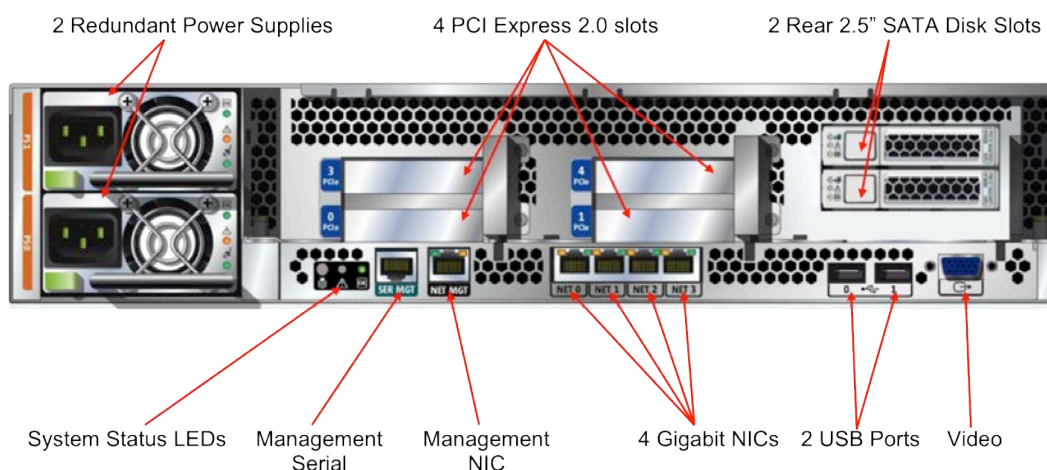

Figure 11. Example Disk controller wiring when using the optional Rear Dual SATA disk cage for the Sun Fire X4270 M2 Server
The Optional Rear dual disk cage replaces the rear panel of the server and replaces the two right-most PCIe slots of the conventional rear panel. This is illustrated in Figure 11.
The passive riser splits 16 PCIe 2.0 lanes from the IOH into two sets of eight lanes, one set for each riser slot. The active riser (see Figure 11) uses an IDT PES24T6G2 PCIe 2.0 switch to expand eight PCIe lanes from the IOH into two x8 slots. The PES24T6G2 switch features six ports and twenty-four 5 Gb/sec PCIe 2.0 lanes supporting 5 Gb/sec, 2.5 Gb/sec, and mixed 5 Gb/sec and 2.5 Gb/sec modes. As implemented in these servers, the switch provides high-performance I/O connectivity and switching functions between the riser's x8 PCIe 2.0 upstream port and the two x8 downstream ports. It supports eight traffic classes (TCs) and one virtual channel (VC) with sophisticated resource management algorithms (including round-robin, weighted round-robin, and strict priority schemes). The switch helps support PCIe applications that demand high throughput and low latency, such as high-throughput 10 Gb I/O cards, SATA controllers, and Fibre Channel HBAs. However, inserting more than one high-bandwidth and latency-sensitive PCIe card into slots managed by a single switch at the same time (for example, in Slots 1 and 4 or in Slots 2 and 5) is not recommended.